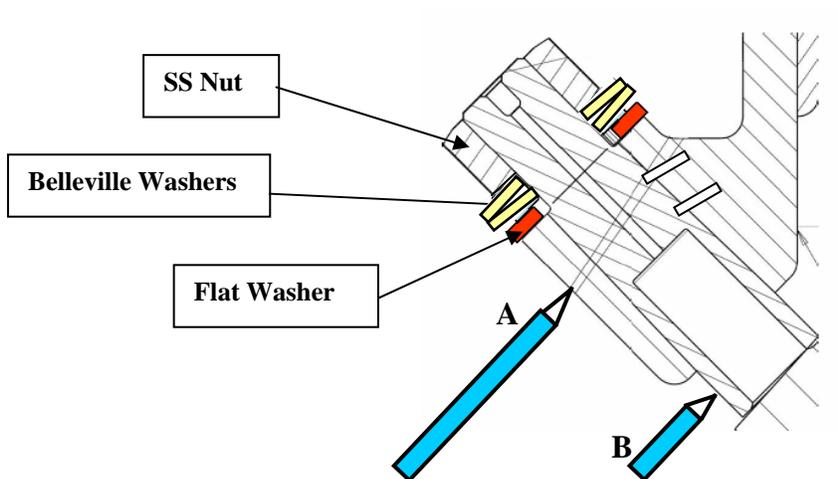
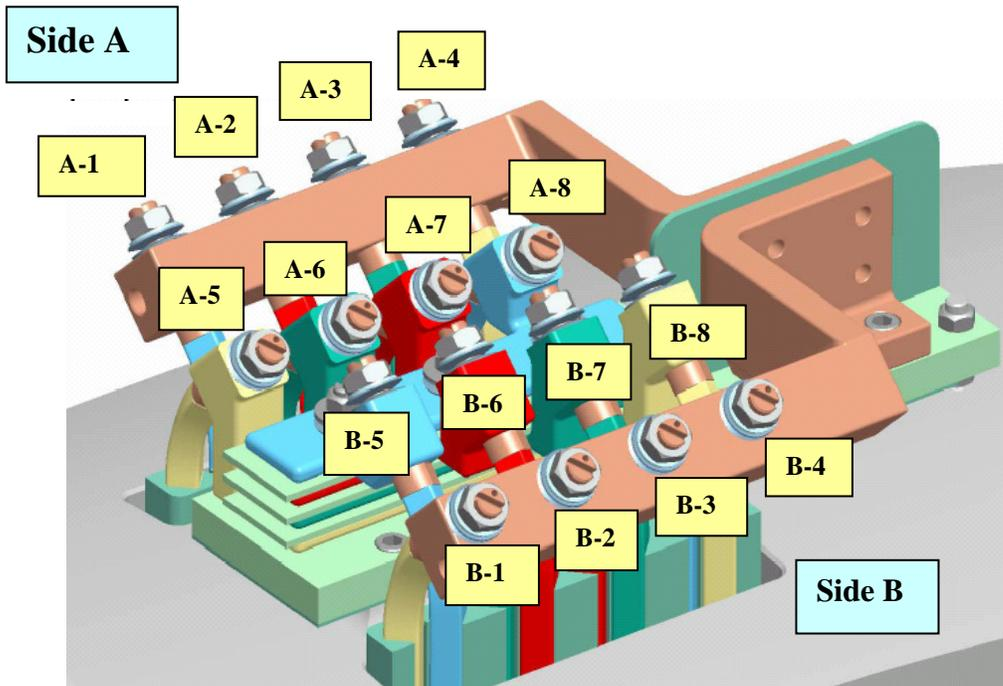

Figure 40- Typical Joint
Figure 41- Final Terminal Connections Identification
6.42.1 Assemble all of the cable connectors to the terminal blocks per drawing SE142C-049. [Figure 40- Typical Joint and Figure 41- Final Terminal Connections Identification]
6.42.2 Measure the joint resistance between the connector and the terminal blocks [points A and B]. See Figure 40- Typical Joint [Acceptance criterion is < 1 micro-ohms.]